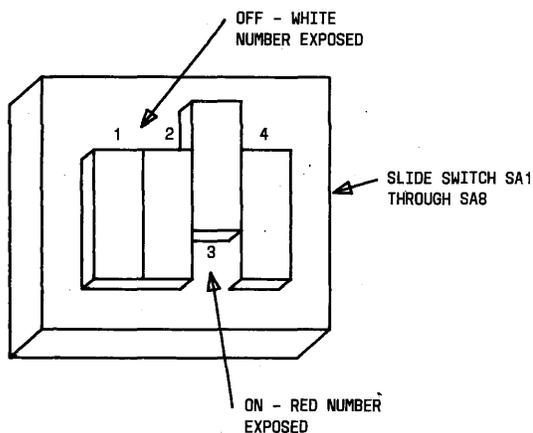

Fig. 4—Details of Option Switch
**2.06** Options are installed and removed by means of the option switches above the relays on the backplane, by a strapping plug near J1 on the backplane, and by inserting a strap between terminals A and B of PWR OUT. Refer to Fig. 4 for details of one of these option switches. Refer to Table C for a summary of 40A2 data mounting options.